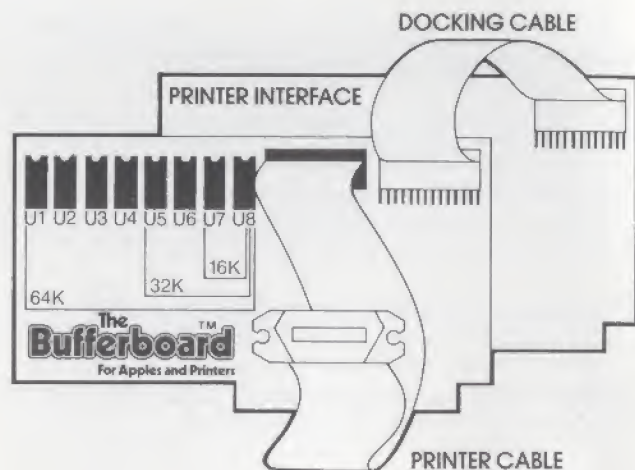

FIGURE 1-1
4. Now disconnect your printer interface cable from your existing interface board. Place this cable on the connector of the BUFFERBOARD labeled "PRINTER." This cable will also come away from the BUFFERBOARD as did the DOCKING CABLE. (See Figure 1-1)
8. Take the other end of the BUFFERBOARD DOCKING CABLE and attach it to your printer interface board. The cable will point away from the interface board. (See Figure 1-1)
To expand your BUFFERBOARD to 32K, one RAM Expansion Package must be added to sockets U5 and U6 (see Figure 1-1). To expand to 64K all sockets must contain RAM expansion chips. Note that four chips are necessary to expand from 32K to 64K; therefore, two RAM Expansion Packages must be added. Three RAM Expansion Packages would be needed to convert from 16K to 64K. There is no provision on the BUFFERBOARD for 48K.